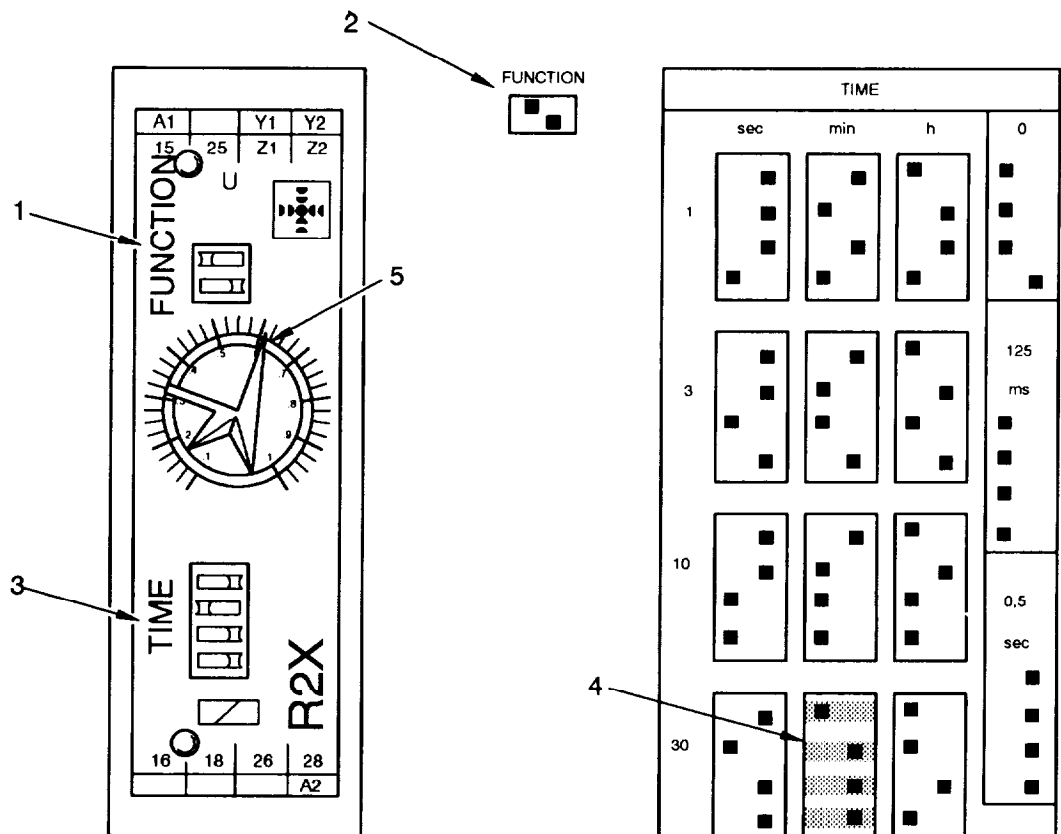

Figure 5-35 Time Relay K108
3. Set time relay K108 (7) to switching time on 700 seconds:
- a. On front of time relay K 108 (7), set FUNCTION DIP switches (1) as shown in figure 5-35.
- b. On front of time relay K 108 (7), use TIME DIP switches (3) to set a time window of 30 minutes as shown in Figure 5-35.
- c. On front of time relay K 108 (7), use rotary knob (5) to set a multiplication factor of .4.